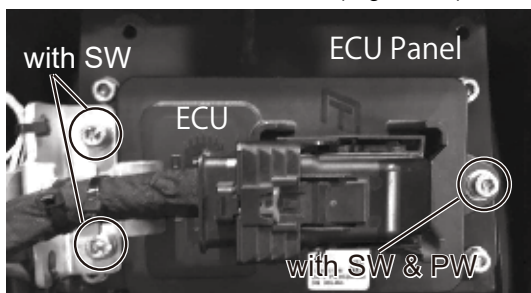

Figure 11. ECU Removal
2. Remove the three 6 mm bolts and washers securing the ECU of the Hatz engine to the ECU panel in the rear cover, and set them aside (Figure 11).
- Secure the ECU of Hatz engine to the ECU panel with the three 6 mm bolts and washers that were removed earlier (Figure 11).